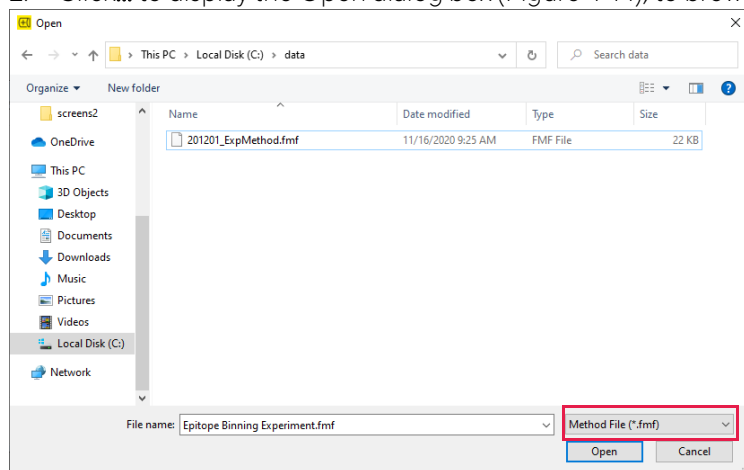

Figure 4-14: Open Dialog Box
- Click... to display the Open dialog box (Figure 4-14), to browse for the desired .fmf or .frd file.